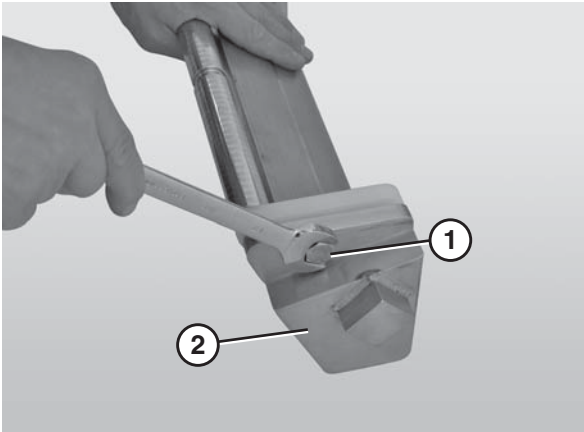

**Figure 81**
3. Slide the nose bar shafts (Figure 81, item 1) off of the nose bar weldment (Figure 81, item 2).